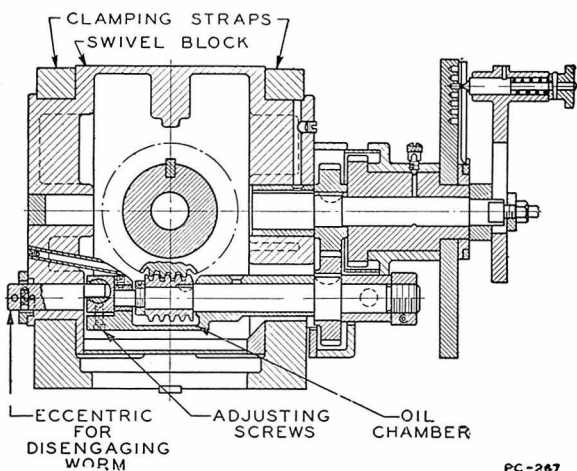

Figure 38
Direct indexing is often used for making the divisions listed in the following table because it is faster than indexing with the side plate through the 40 to 1 worm reduction. To change the dividing head into plain index centers, turn the eccentric for disengaging the worm (Fig. 38) through half a turn. The worm is then disengaged and indexing is accomplished by turning the spindle by hand.
1. See that the worm is engaged with the worm-wheel (Fig. 38).
2. Remove the back-lash from the worm by tightening the locknut on the end of the worm shaft (Fig. 38).